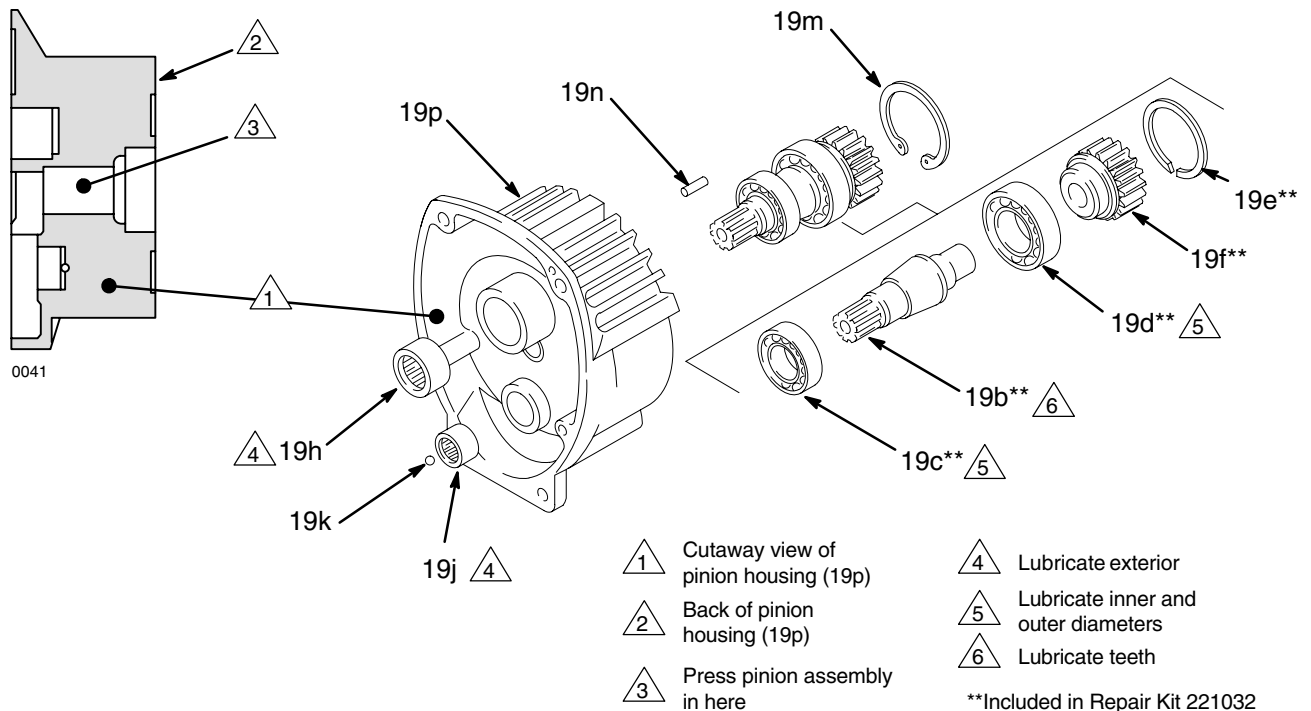

Fig. 19
1. Remove the two bottom screws (3) first, and then remove the top three screws (3).
2. Pull the pinion housing (19p) away from the clutch housing (17). The armature (9b) will come with it.
3. Pull the armature (9b) off the hub (19j – see Fig. 19) of the pinion housing.
**NOTE:** Refer to Fig. 19, except where noted.
5. Apply lubricant to the parts as shown in Fig. 19.